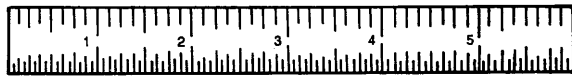

Figure 3-9. Typical Rule
b. Rules. Rules are usually made of flexible or rigid steel and are 4, 6, or 12 inches long. They are graduated in $1/8$, $1/16$, $1/32$, and $1/64$ inch divisions. When the total length of a measurement is not too great, the rule should be used. It is more accurate and easier to read than the tape. A typical rule is shown in figure 3-9.